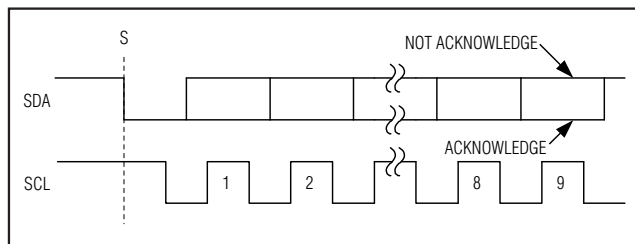

Figure 6. Acknowledge Bits
Data transfers are acknowledged with an acknowledge bit (A) or a not-acknowledge bit ($\bar{A}$). Both the master and the MAX11612-MAX11617 (slave) generate acknowledge bits. To generate an acknowledge, the receiving device must pull SDA low before the rising edge of the acknowledge-related clock pulse (ninth pulse) and keep it low during the high period of the clock pulse (Figure 6). To generate a not-acknowledge, the receiver allows SDA to be pulled high before the rising edge of the acknowledge-related clock pulse and leaves SDA high during the high period of the clock pulse. Monitoring the acknowledge bits allows for detection of unsuccessful data transfers. An unsuccessful data transfer happens if a receiving device is busy or if a system fault has occurred. In the event of an unsuccessful data transfer, the bus master should reattempt communication at a later time.